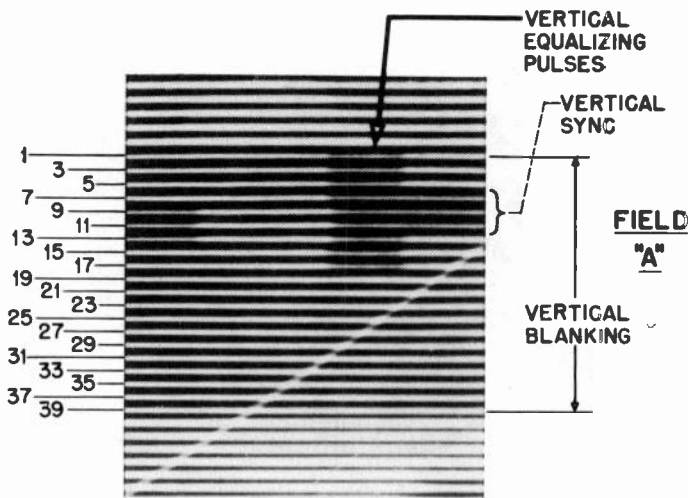

Fig. 5—Same as Fig. 4, but showing field A only. (The photographs in Figs. 5 and 6 were made with a camera shutter speed of 1/100 second.)
As a further aid to the reader, we are including several unusual photographs (Fig. 5, 6, 10) that were made with a relatively high shutter speed of 1/100 second in order to show some of the lines in a single field. In 1/100 second, the electron beam in the kinescope traces about 160 of the full 525 lines.
7. *Vertical sync in field B starts near the right-hand end of line 6. Vertical sync in field A starts near the center of line 7. This difference may be noted also by careful inspection of Fig. 5 and 6. The time interval (1/60 second) between the start of vertical sync is precisely the same in successive fields. It is this fact, combined with the odd number (525) of horizontal scanning lines, that provides interlacing of the two fields.*